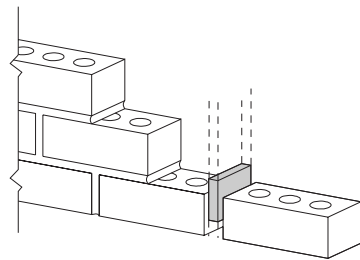

FIGURE 2
■ Wall cracking associated with moisture penetration and caused by freeze/thaw cycles and corrosion: Examples include cracking around sills, cornices, eaves, parapets, joints between dissimilar materials, and other elements subject to water penetration and freezing; cracking around clogged or non-functioning weep holes at lintels and at the base of brick veneer cavity walls. A number of companies, including Mortar Net™ and Heckman Building Products, Inc., make plastic mesh products for cavity wall construction that suspend mortar droppings above the weep holes, thereby reducing the chance of blocking them with mortar debris (Fig. 1). Mortar Net™ also makes a vertical insert between bricks that acts as a continuous weep (Fig. 2).